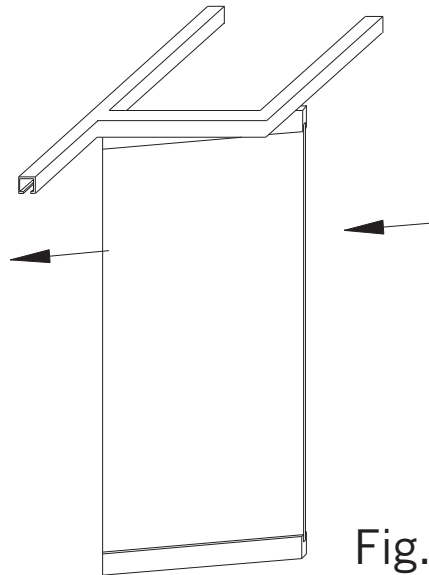

Fig. 21
21. System maintenance and panel operation (Fig. 21):